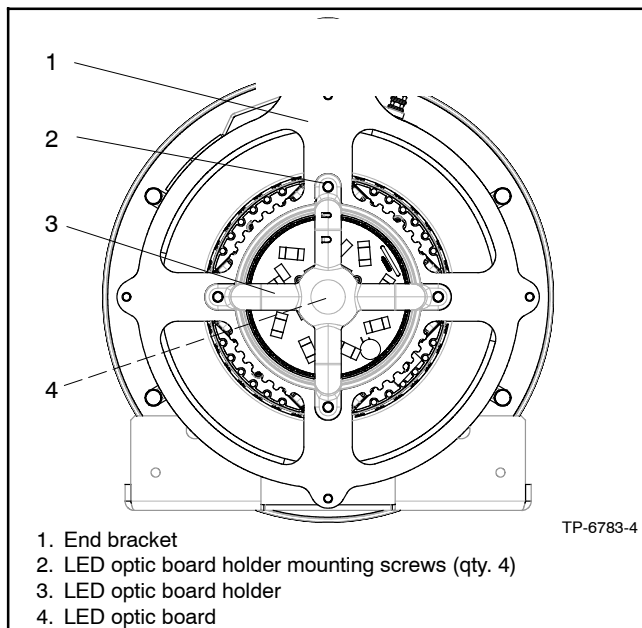

Figure 16-2 Removing LED Optic Board Holder
4. Remove the LED optic board holder from the end bracket (four screws). See Figure 16-2.